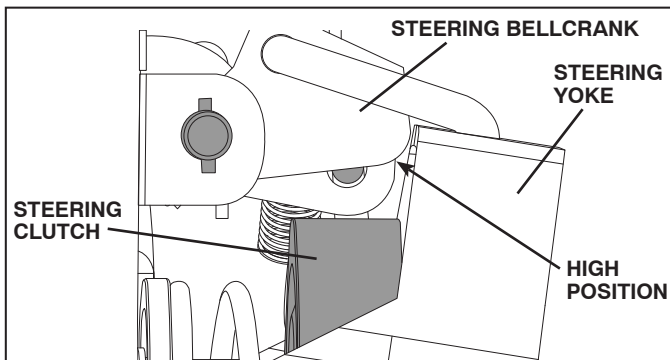

FIG. 32
**NOTE:** Figure 32 shows the bellcrank positioned too high, causing clutch to disengage while driving and giving appearance of wheel slip.